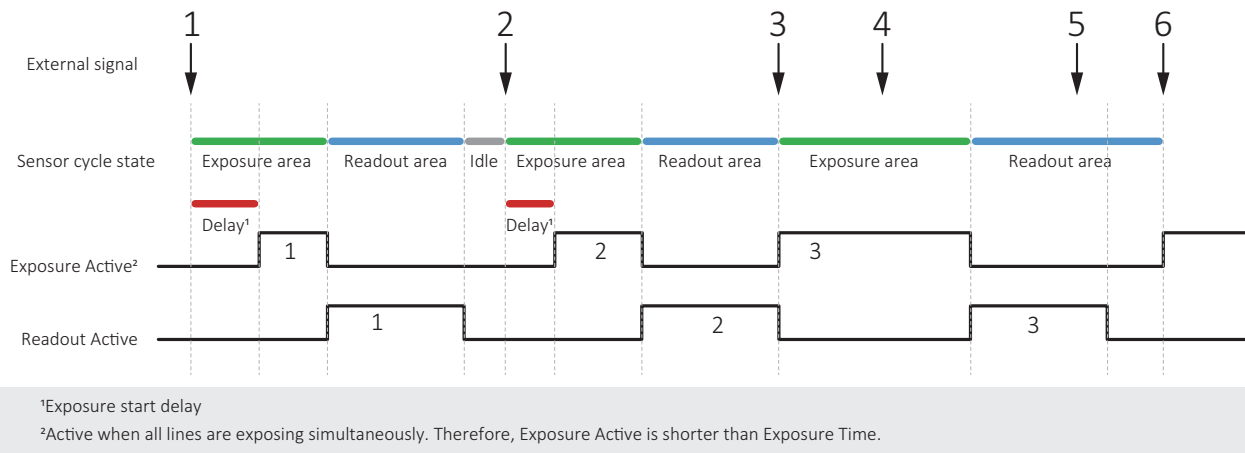

Figure 78: Triggering rolling shutter (RS) cameras
This section describes triggering behavior for **1500 C-210m/c** and **C-500m/c**, and for **1800 C-1240m/c** and **C-2050m/c**. Figure 78 shows how an external signal triggers exposure and readout for cameras with rolling shutter (RS) sensors. Like for global shutter (GS) sensors, readout has a constant duration, acquisition must be active to enable exposure, the end of exposure starts readout.
The signals displayed in Figure 78 represent logical states, not user controls.